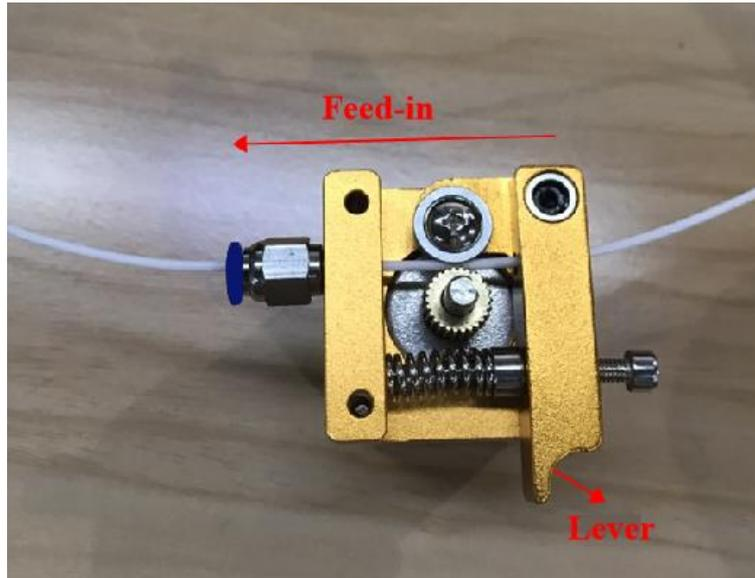

Figure 5.77 Push down the filament
- Step 1** Press down the lever on the extruder, and push down the filament to the bottom of the hole via the pulley, as shown in Figure 5.77.